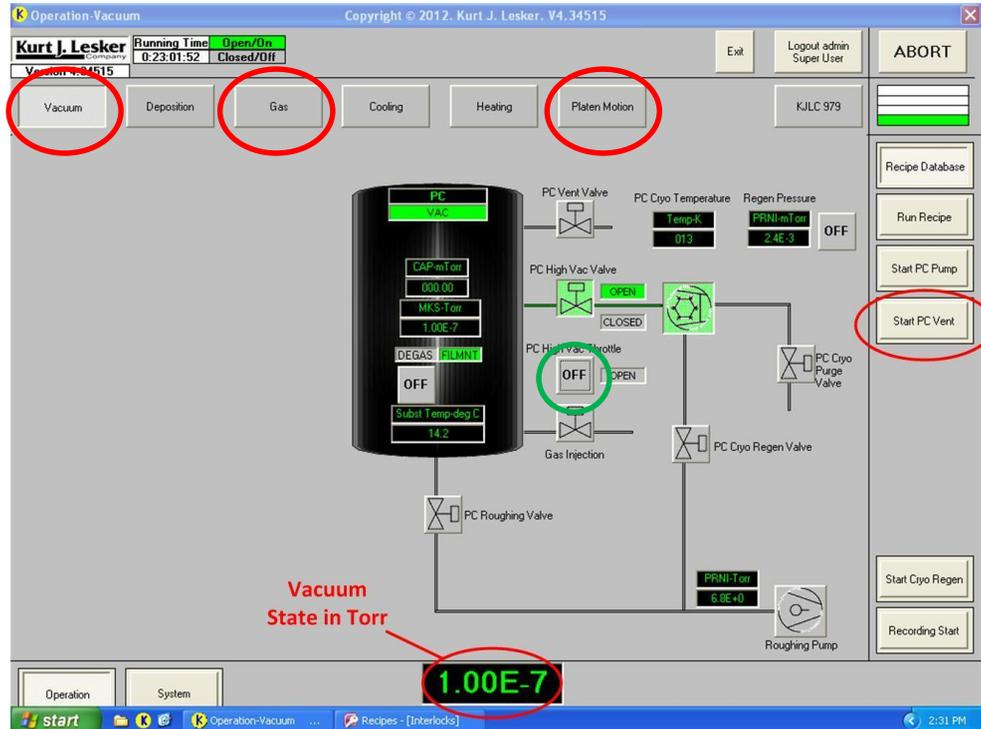

Figure 1. The vacuum page of the PVD 75.
3. Select the **Vacuum** tab at the top left of the screen, Figure 1. Take notice of the current vacuum level found at the bottom of the screen in Torr. If the vacuum is greater than 1×10^{-5} Torr there may be a problem and notify the MNTC staff.
2. Select the **Vacuum** tab at the top left of the screen and press the **PC High Vac Throttle** (green circle on Figure 1 and not the PC High Vac Valve button). It will turn green when turned on.
3. Select the **Platen Motion** tab at the top right of the screen, Figure 1. Under the Drive Motor Continuous box press the **FWD** button to start rotating your substrate.